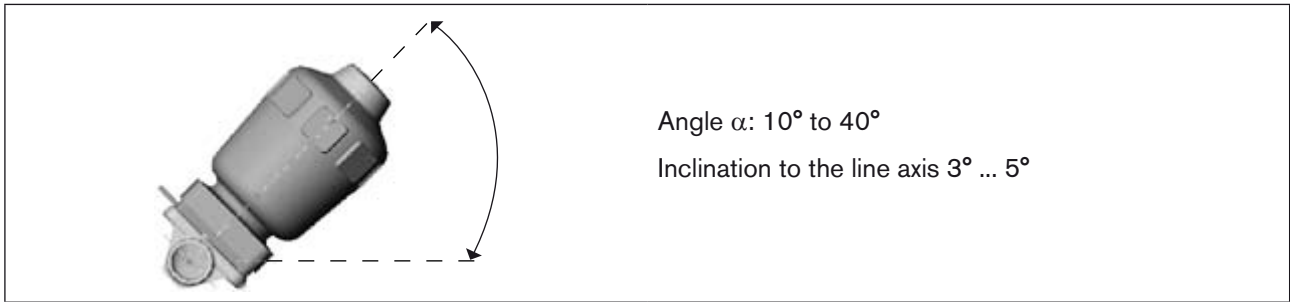

Figure 11: Installation position for self-drainage of the housing
- Install housing inclined by angle $\alpha = 10^\circ$ bis 40° to the horizontal (see *Figure 11: Installation position for self-drainage of the housing*).